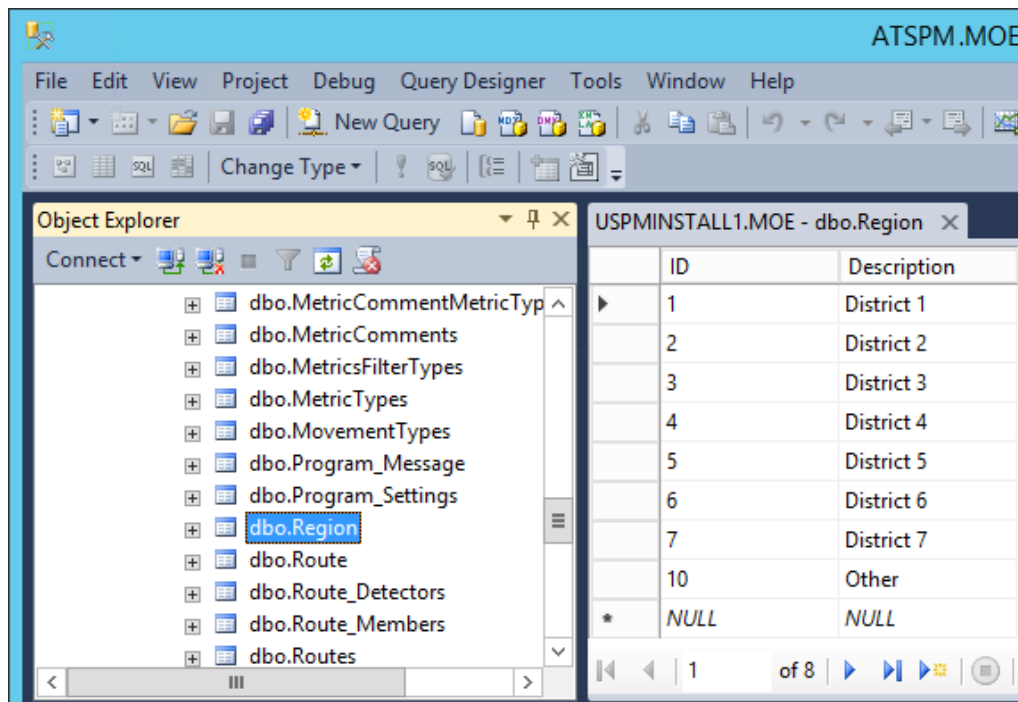

Figure 4: Set up regions in SQL Server Management Studio
- Log in to the server using SQL Server Management Studio; expand the MOE database and the **Region** table (Figure 4).